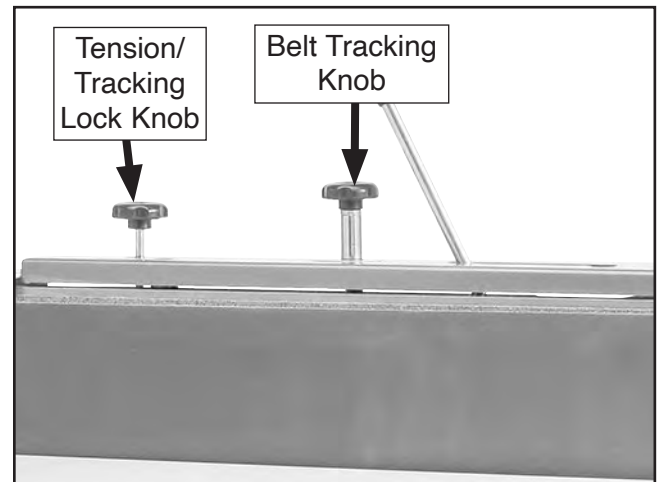

Figure 40. Location of belt tracking knob and tension/tracking lock knob.
4. Adjust belt tracking knob (see **Figure 40**) to adjust belt higher or lower on rollers until top of belt remains even with top of drive roller.
6. Tighten tension/tracking lock knob to secure tracking setting (see **Figure 40**).